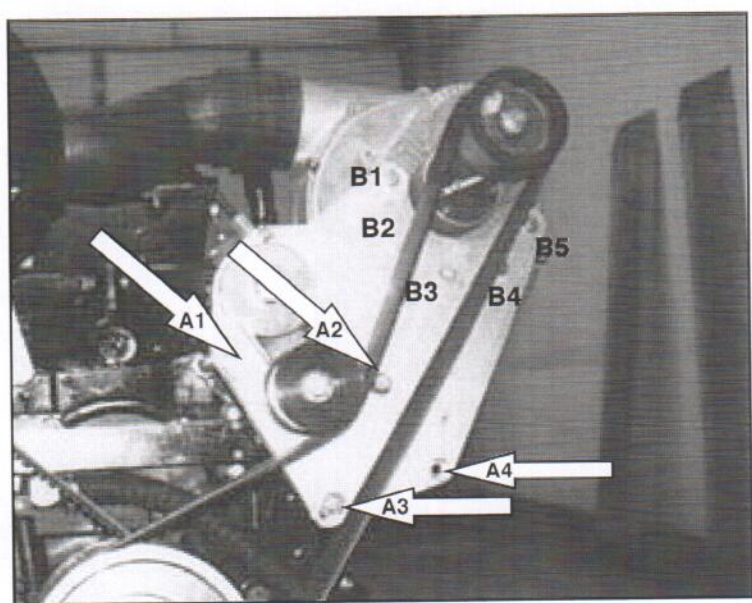

FIGURE D2
2. Attach the ProCharger main bracket to the engine using A1, A2, and A3. (refer to figure D2) Holes A1 & A3 use 4 1/4" spacers and 3/8" x 5.5" long bolts. Hole A2 uses the 3 3/4" spacer with a 3/8" x 5.5" bolt which feeds through the bracket, the spacer, and hole D1 on the alternator bracket (refer to figure D4).
13. Using the supplied 5/16"-18 x 2.75" and 5/16"-18 x 1.25" bolts, the 1.37" spacers, and holes B1, B2, B3, B4, and B5 on the main bracket, attach the ProCharger M-3 to the main bracket, oriented as shown in Figures D2 and D6. Connect oil feed line to side of the ProCharger and tighten. Route the return line to the ProCharger oil return fitting on the bottom of the ProCharger, **making sure that the line runs continuously downhill from the procharger without any kinks or tight bends.** Trim the return line to the proper length, connect & clamp it to the supercharger's return fitting and clamp. Using the supplied adel clamps, secure the return line using the two lower crossover tube mounting bolts. Care should be taken to ensure that the lines are kept clear of moving parts (ie: belts, etc.).